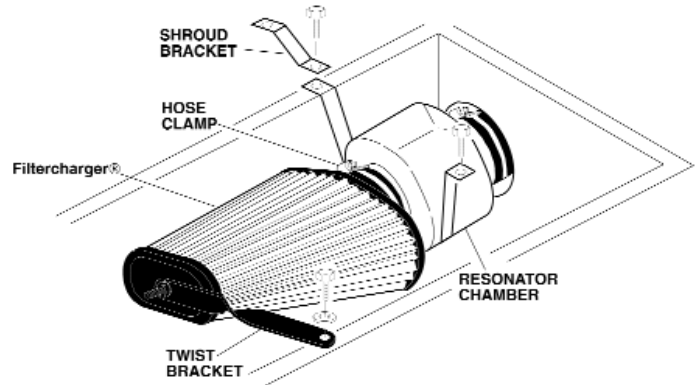

fig. 4
- 6) fasten twist bracket to the filter and the unused hole in grill area. (see fig. 4)